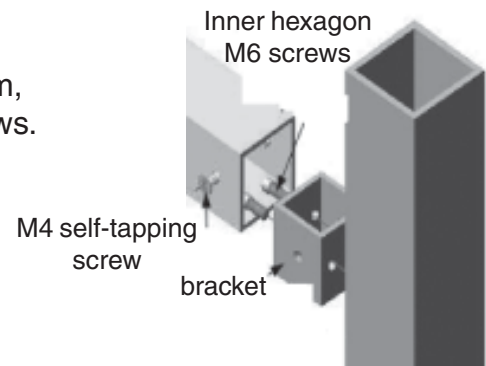

Figure 2
- Align holes in the joint brackets to the holes in the column (see Figure 2).